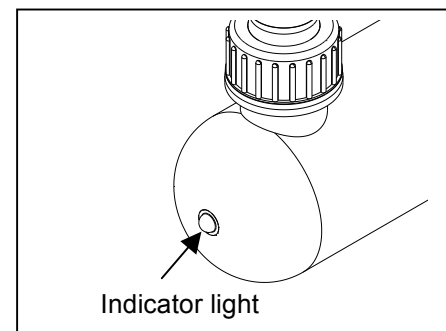

Fig. 18
- Wait several seconds for the light to turn on then check the indicator light to verify if the light is functioning correctly. Fig. 18